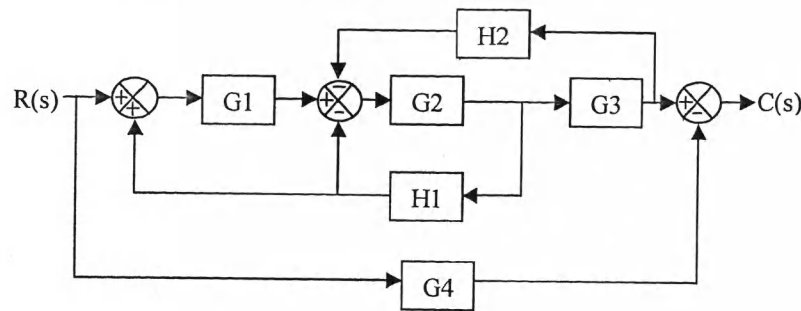

Fig. 5
6. (a) Convert the block diagram of Fig. 5 in a signal flow graph and obtain the overall transfer function of the system using Mason's Gain formula. [5]